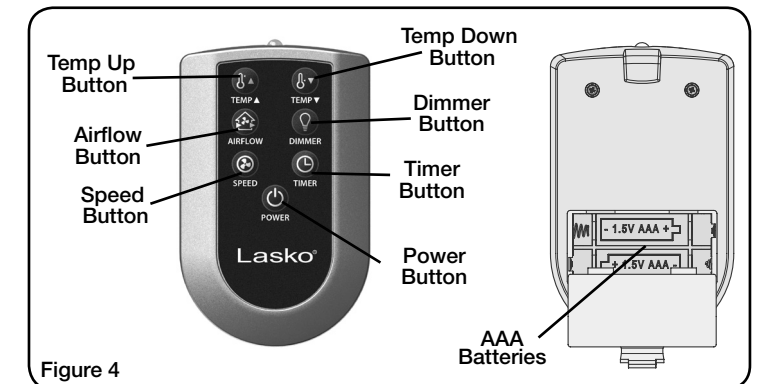

Figure 4
### REMOTE CONTROL (Figure 4)
1. Install batteries (not supplied) as shown in Figure 4. The battery is size "AAA".